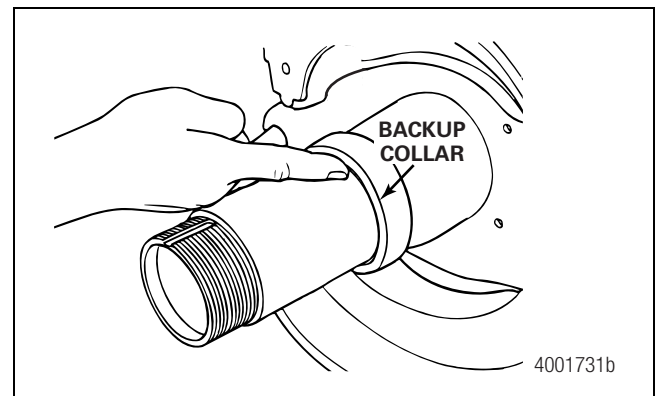
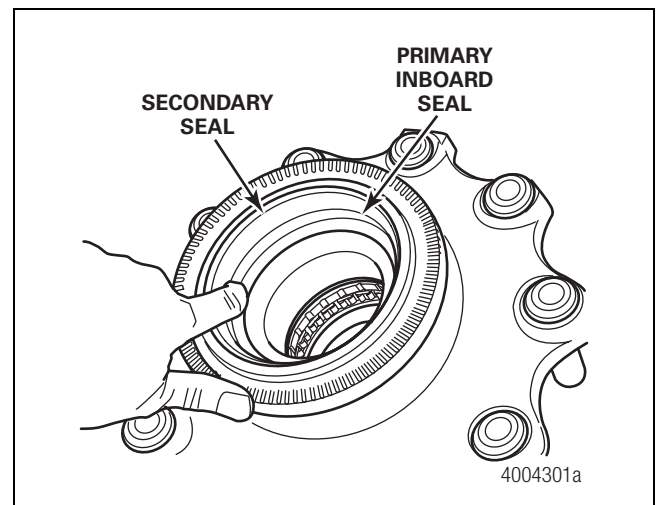

Figure 4.22
Figure 4.23
- Use your finger to verify that the hub side of the axle backup collar and the edge of the hub that contacts the backup collar are clear of debris. Figure 4.22 and Figure 4.23.